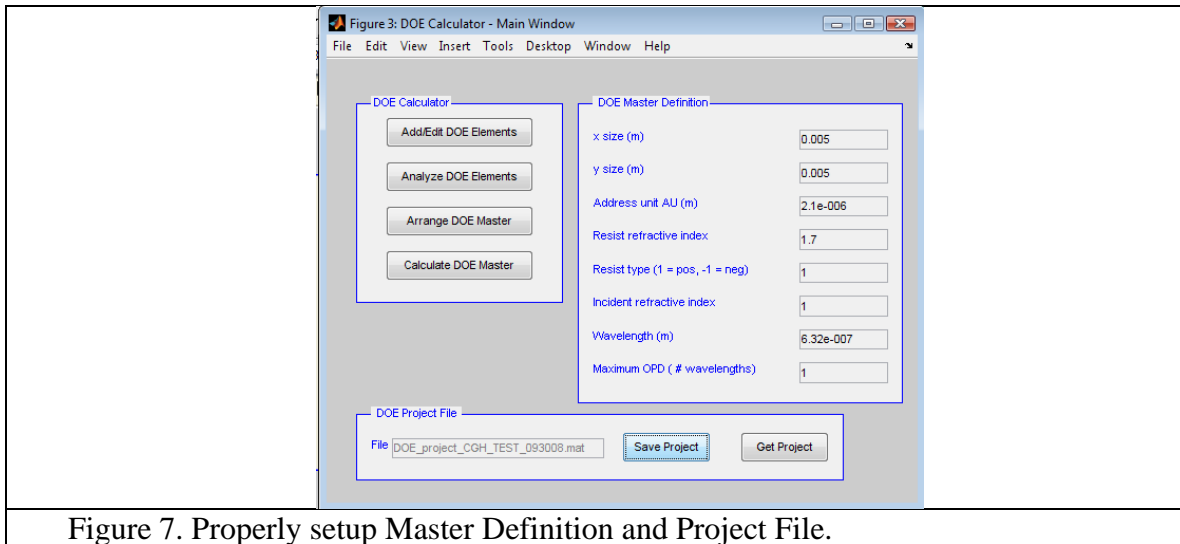
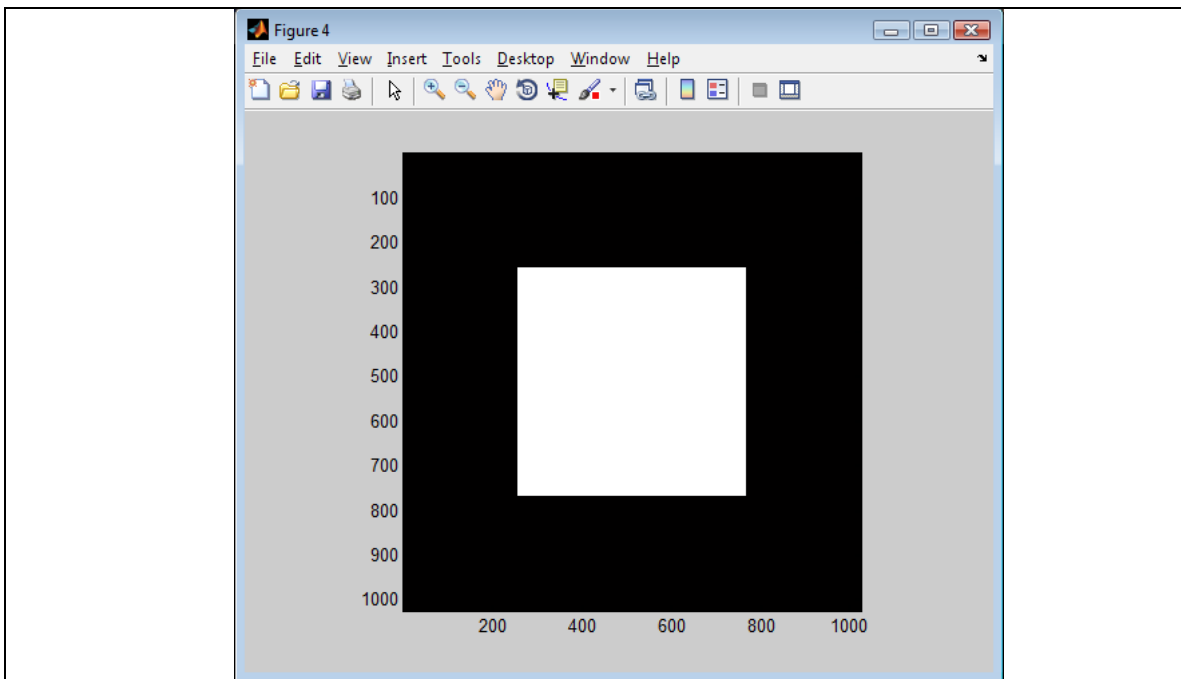

Figure 7. Properly setup Master Definition and Project File.
Figure 8. White square in black background for the target file.
- 16.) After these changes are made, save the DOE project by selecting the “Save Project” button and enter the filename “DOE_project_CGH_TEST_093008” for the name of the DOE project. The default directory is the “userdata” directory of the OptiScan Project. It is always a good idea to name the DOE project file so that it can be differentiated from other Matlab files in the same folder, which we can accomplish by using the identifier “DOE_project” as a leader to the filename. You should also save your project after any changes are made to the setup. Your window should appear as shown in Figure 7.
- 20.) Let's exit the DOE elements window for a few steps and save the resulting DOE Project that we have made. Select "OK" on the bottom-right-hand corner of the DOE elements window to return to the DOE Calculator – Main Window, as shown in Figure 7. Select the "Save Project" button and save your project file under the same name as we specified in Step 16. The program will ask you if you want to replace the project file, and you will select "Yes".
- 23.) Entering the following commands in the Matlab Command Line Window will produce a bright square in and otherwise black background, as shown in Figure 8. The array size is 1024x1024, and the variable type is “uint8”, which is unsigned 8-bit integer. Width of the square is one half of the matrix width. After creation, the array is written out to a bmp (8-bit bitmap) file for further processing. Of course, other patterns may be used, but the bmp file format and uint8 variable type must be used. Also, gray-scale uint8 values between 0 and 255 may be used in the matrix.
- 24.) Figure 8 shows the ideal result of the CGH being illuminated by a laser beam. In the far field, it should produce a white square. Let’s now enter that information into the DOE and CGH Calculator. We now return to the DOE Calculator – Main Window, as shown in Figure 7. Select the “Add/Edit DOE Elements” button to return to the DOE elements window, which should look like Figure 9.